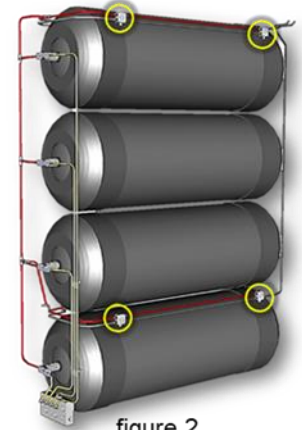

figure 2
**Back of Cabs** have “8” PRDs. 4 in the front and 4 in the back figure 2.